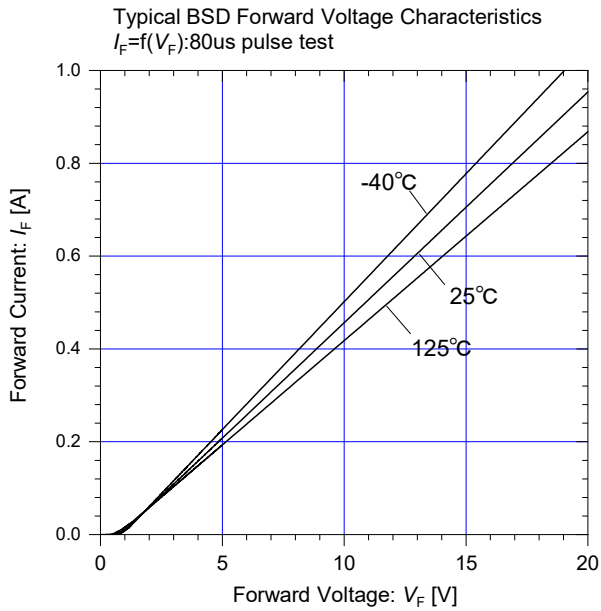
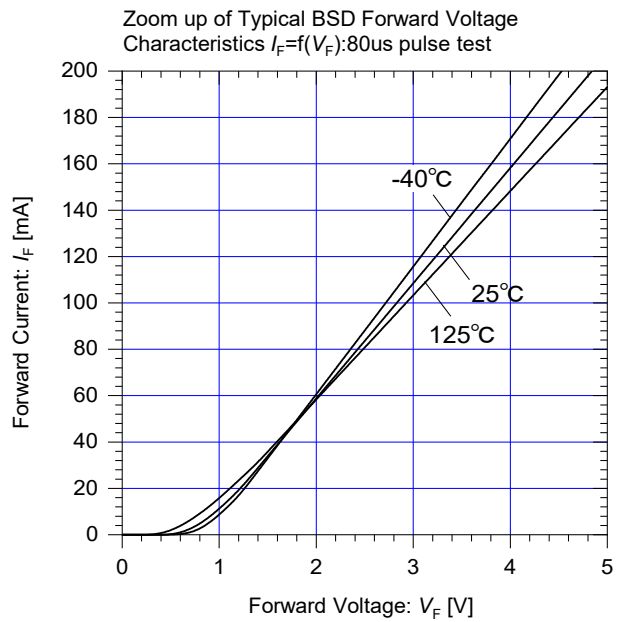

Fig. 3-11 V_F - I_F characteristic of BSD
Fig. 3-12 V_F - I_F characteristic of BSD
- * R : Bootstrap circuit resistance $R_{(BSD)}$ (refer to Fig. 3-11, Fig. 3-12)
The bootstrap diode has built-in current limiting resistor of 20Ω (typ.). Fig. 3-11 and Fig. 3-12 show the V_F - I_F characteristics of the bootstrap diode.